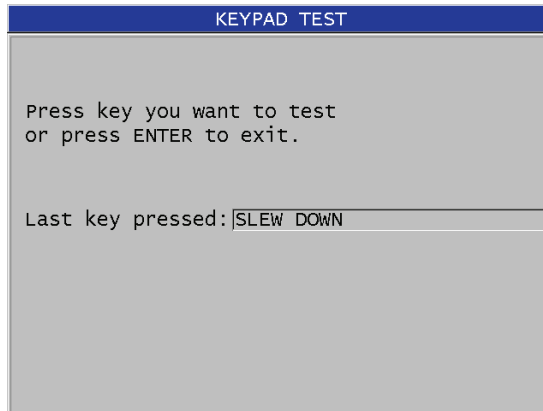

Figure 15-2 The KEYPAD TEST screen
4. When **KEYPAD TEST** is selected, in the **KEYPAD TEST** screen (see Figure 15-2 on page 266)